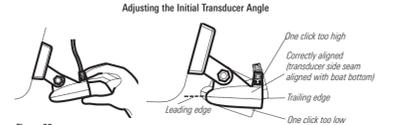

Figure 28
6. Adjust the initial angle of the transducer from back to front by rotating the transducer until the side seam on the transducer is almost parallel with the bottom of the boat, one click at a time in either direction (Figure 28).